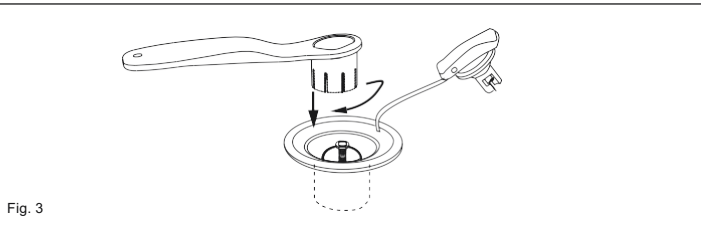

Fig. 3
4. Always carefully check and ensure the air valve is not leaking before using the surf board. If the air valve is leaking, use the provided wrench to tighten the valve. To securely tighten the valve, hold the valve from the bottom of the surf board and turn the wrench clockwise. After you have ensured the valve is not leaking, tighten the cap to close the valve. (Fig. 3)